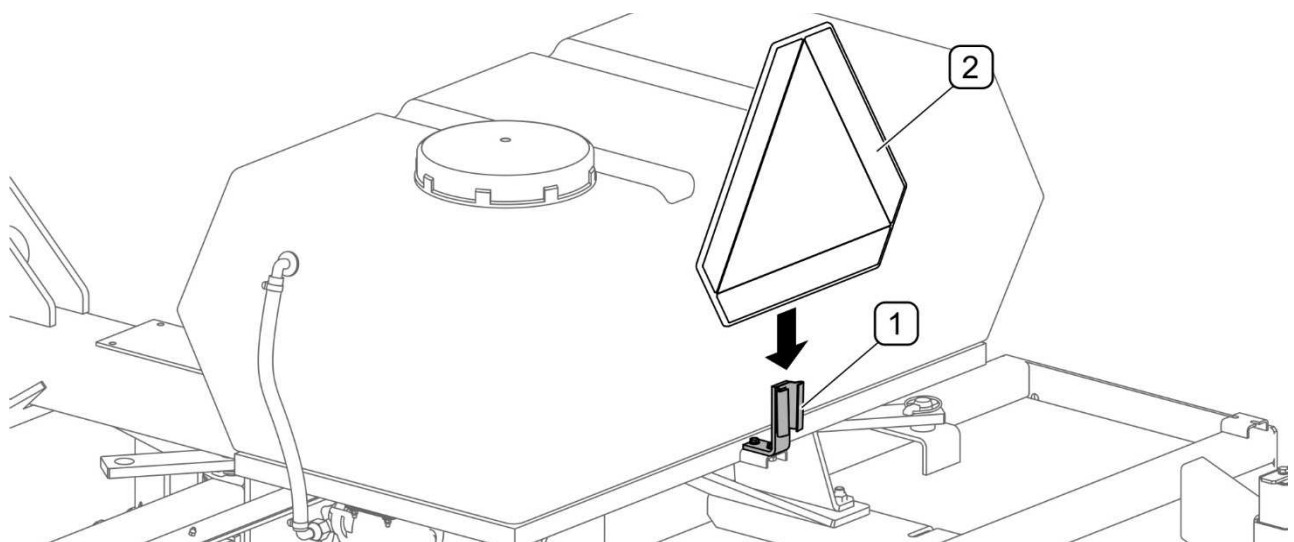

FIG. 4.9 Additional bracket for the warning sign (option)
- If the sweeper obscures the slow-moving vehicle warning sign attached to the back of the tractor, the warning sign must be mounted on a dedicated bracket (FIG. 4.9) on the sweeper frame (available as an option).